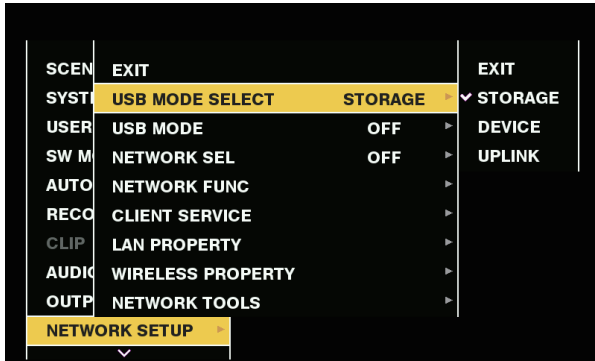

Fig. 2
**2** Set [STORAGE] in the main menu → [NETWORK SETUP] → [USB MODE SELECT]. (Fig. 2)